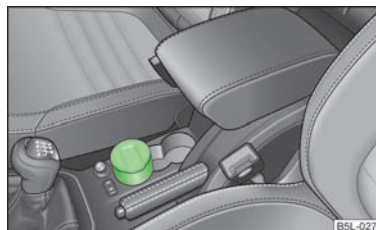

Fig. 66
- » Pull out the ashtray » Fig. 66 upwards.